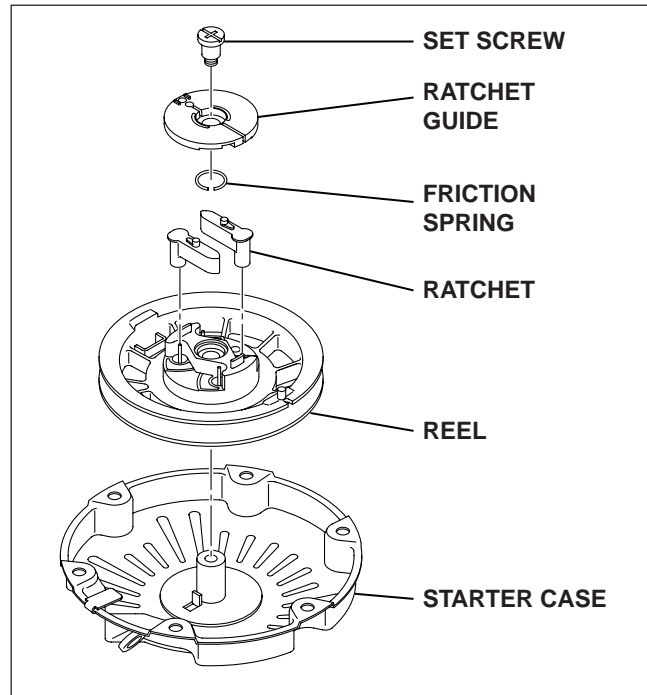

Fig. 12-2
(2) Remove the components. (Fig. 12-2)
(3) Remove the reel. (Fig. 12-2)
- 3 If the spring is about to pop out of the reel, repeat steps (3)-1 and (3)-2.